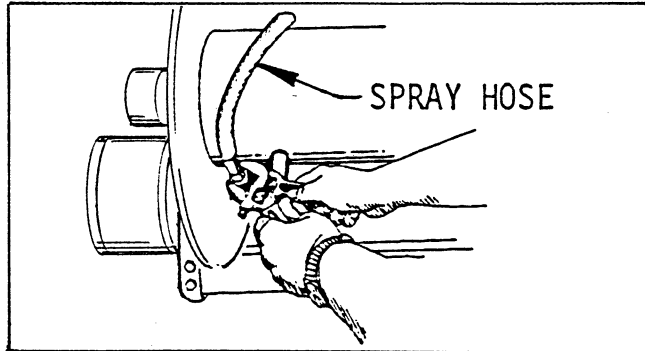

FIG. 2
- Hand thread the male hose connector into the connecting tube on the Reel Shaft. See FIG. 2.